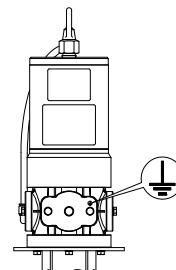

Fig. 8 Position for connecting the ground wire
- 1) When installing the pump, be sure to connect the ground wire at the specified position. (Fig. 8)